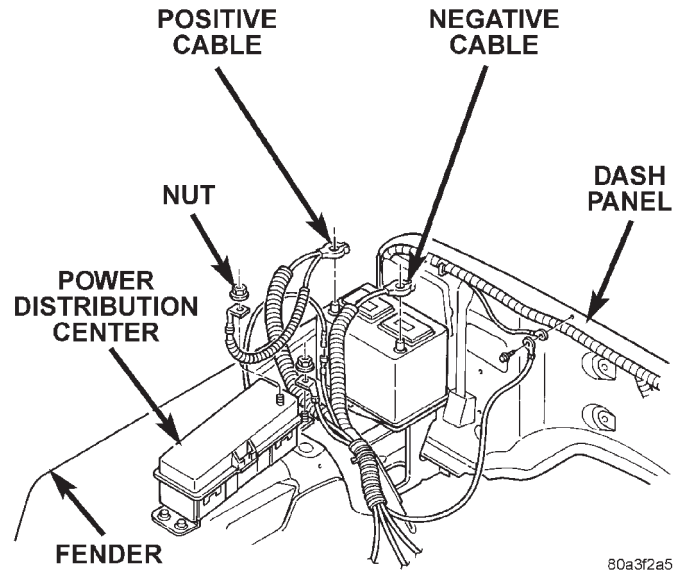

Fig. 13 Power Distribution Center
(1) Disconnect and isolate the battery negative cable.
(2) Remove the cover from the Power Distribution Center (PDC) (Fig. 13).